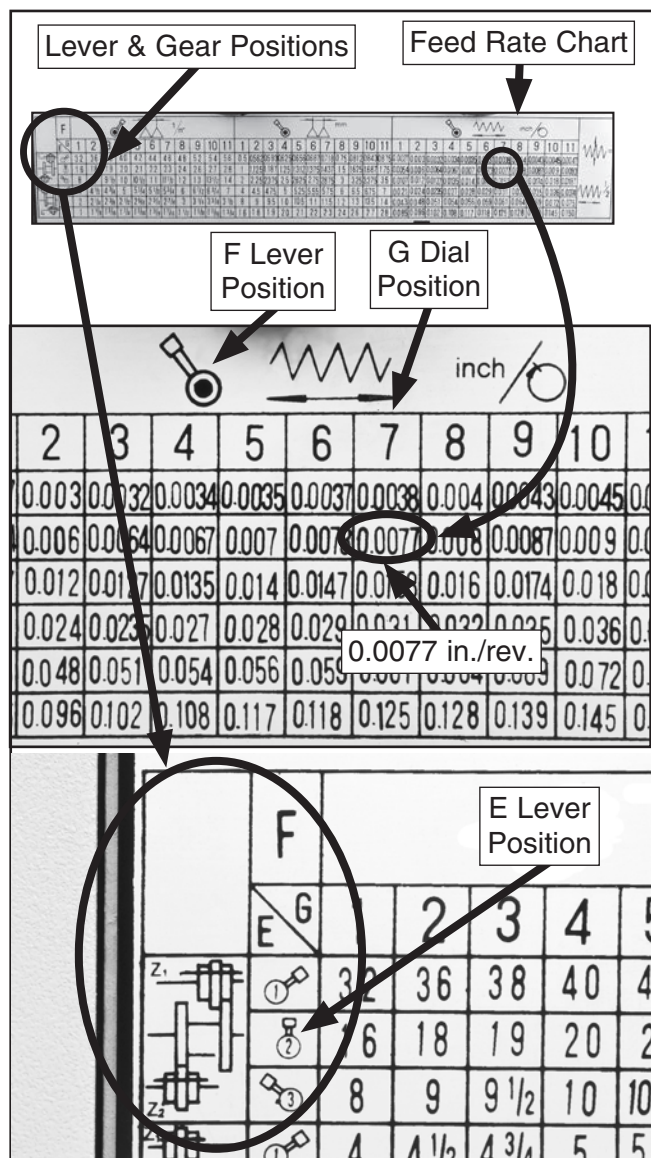

Figure 76. 0.0077 in./rev. location on feed chart. Lever, dial and gear positions.
1. Locate the box on the feed rate chart that lists 0.0077 in./rev., as shown in **Figure 76**.